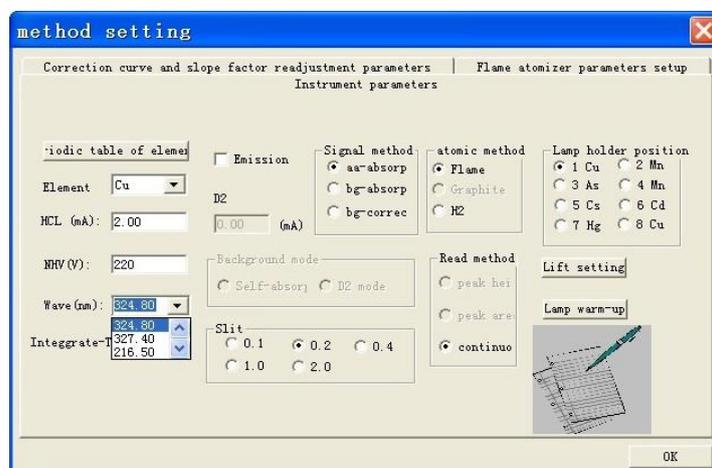

Figure 6-13
4. Press "More parameters" in the "Instrument adjustment" dialog to show another dialog as shown in Figure 6-13.